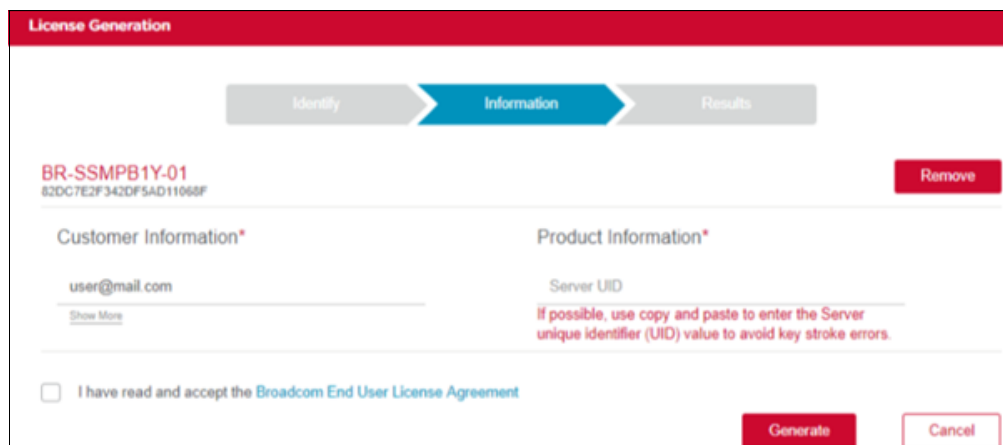

Figure 11-44 Entering the UID
5. In the Product Information area, enter the server UID that you obtained from SANnav (see Figure 11-44).